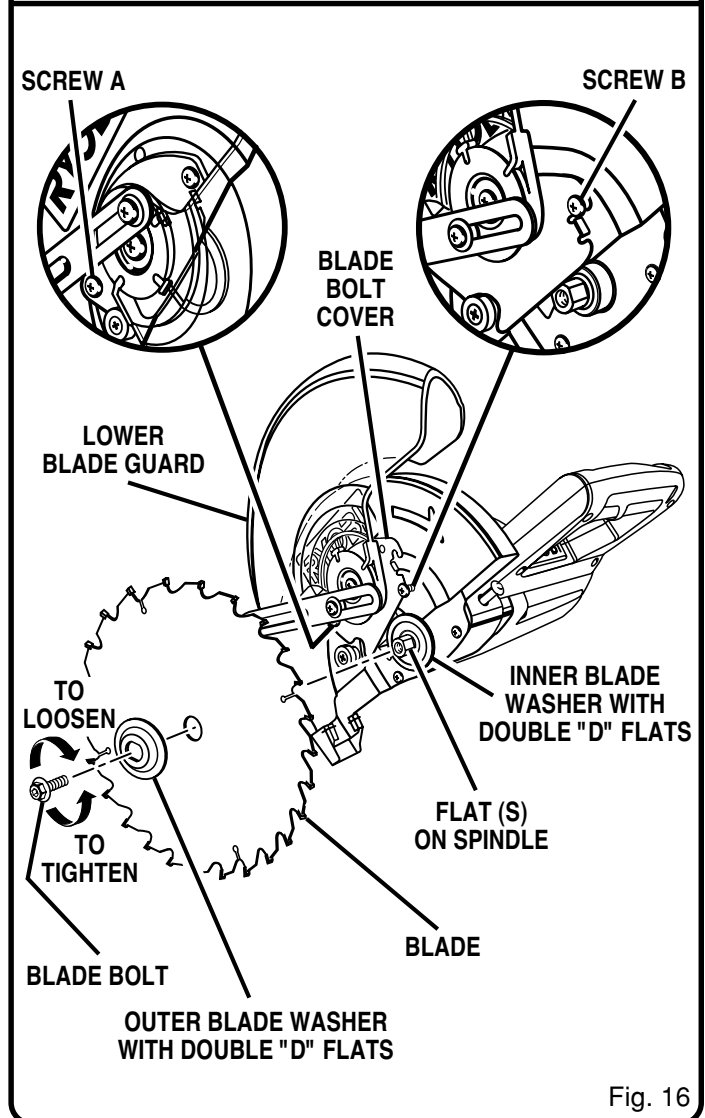

Fig. 16
- Rotate lower blade guard up and remove screw B. Rotate blade bolt cover up and back to expose the blade bolt. See figure 16.
- Fit saw blade inside lower blade guard and onto spindle. The blade teeth point downward at the front of saw as shown in figure 16.